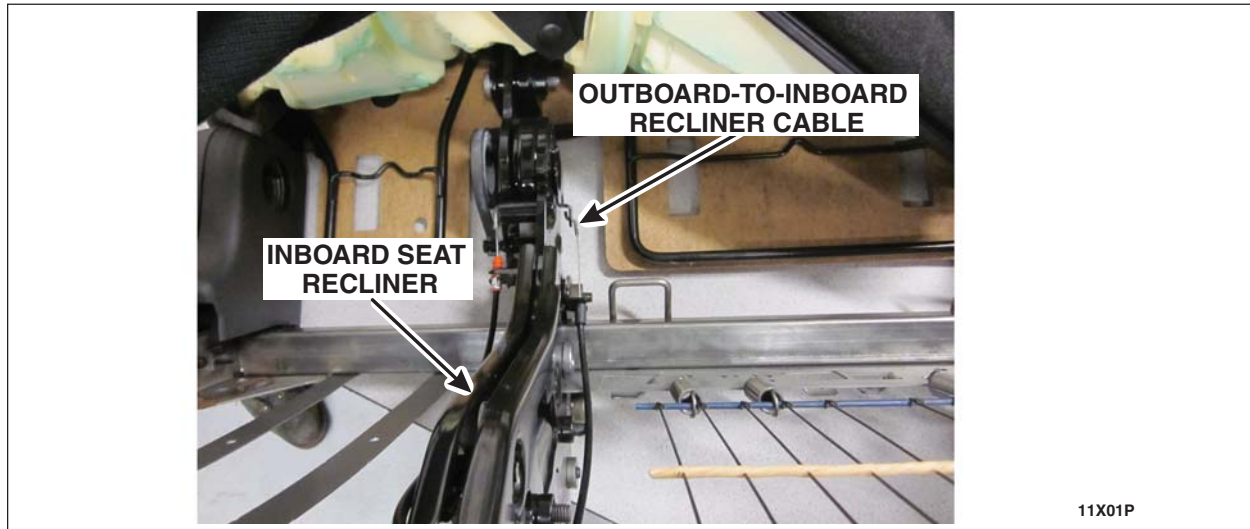

FIGURE 13
30. Detach the outboard-to-inboard recliner cable from the inboard seat recliner. See Figure 13.
44. Attach the outboard-to-inboard recliner cable to the inboard recliner. See Figure 13.